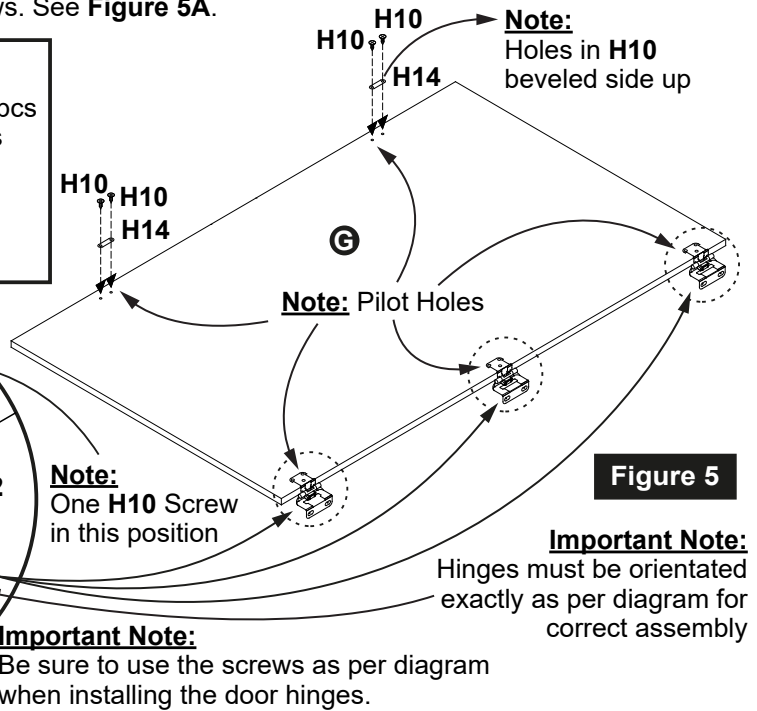

Figure 5
9. Install 2 pcs **H14** Door Magnet Plate to predrilled pilot holes on Part **G** using 4 pcs **H10** Phillips Flat Head Screws. See **Figure 5**.